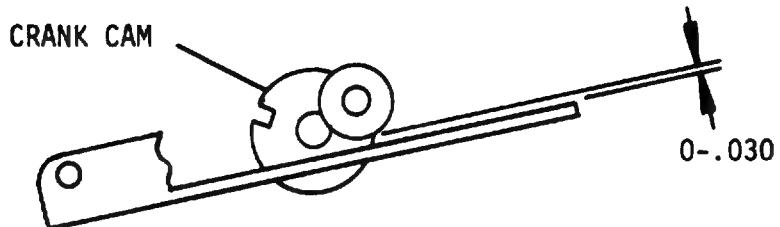

Figure 2-10A. Eject Motor Cam Alignment Check-Carrier Open
- d. Depress eject button on bezel and observe the crank cam rotate to a point where the bearing follower is just clear of impacting the carrier plane, i.e., 0 - .03". Once the carrier is open there must be no further contact between the bearing follower and carrier. (See Figure 2-10A.) This check does not apply to drives with S.N. above D3500.